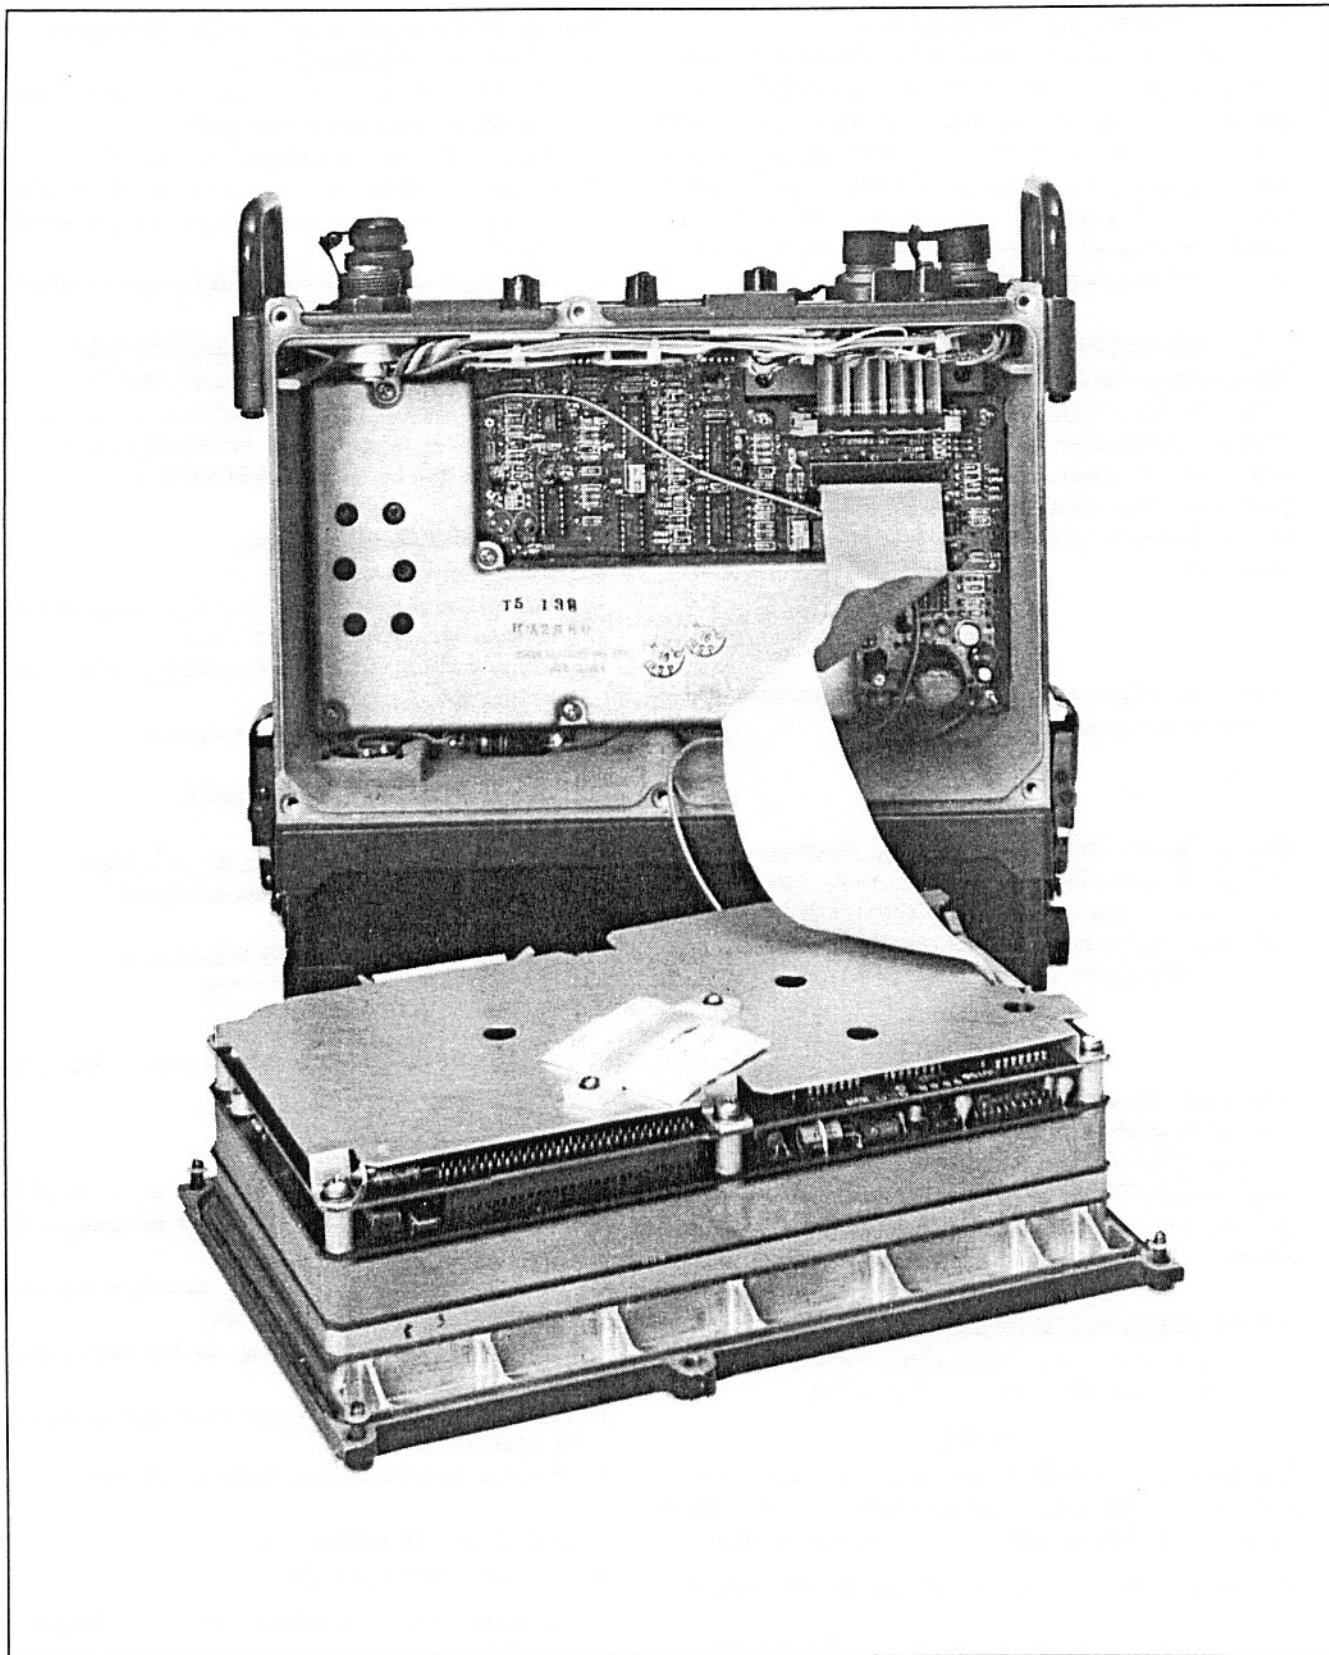

FIGURE 2-4
- a. Situate the receiver-transmitter so that the backplate is accessible. Refer to Figure 2-4.